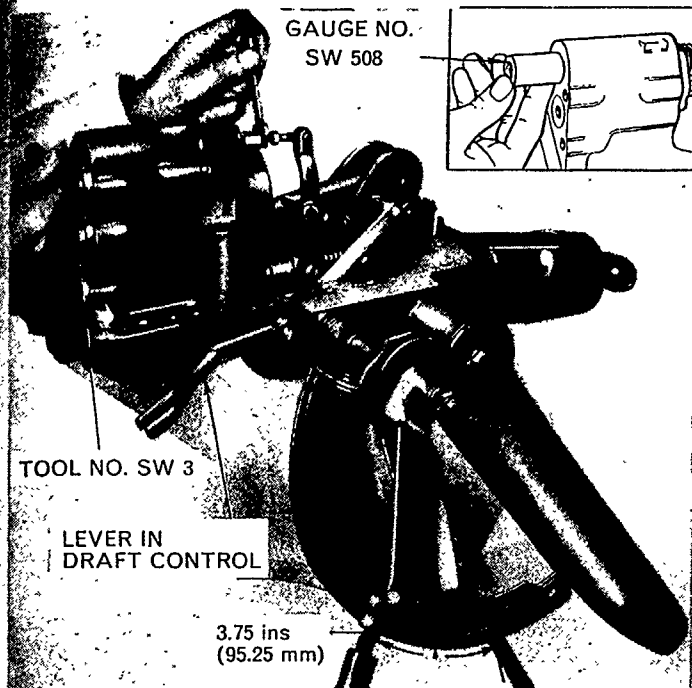

Figure 16
1. Place the selector lever in the Draft Control position, Figure 16.